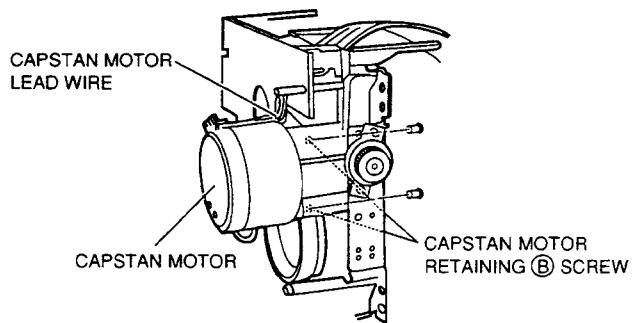

Fig.3-6
- 1) Remove the CAPSTAN MOTOR RETAINING  SCREWS. (refer illustration Fig.3-6)